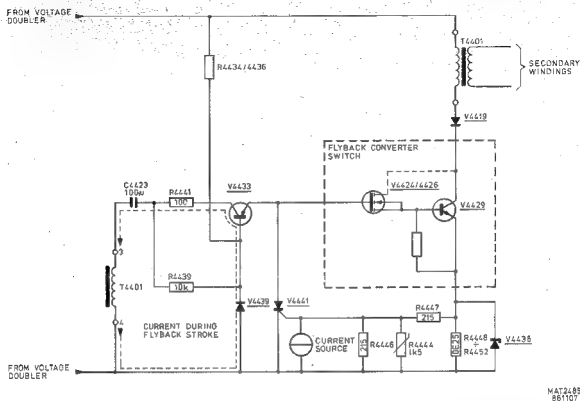

Figure 8.19.3 Simplified diagram of the flyback converter switch.
8.19.4 The flyback converter switch (see also figure 8.19.3)
The switch control is a rather complicated circuit, which will be explained by the simplified circuit diagram of figure 8.19.3. After power on, a current via R4434/4436 and the b-c diode of V4433 charges C4423 until the threshold voltage of the FET is reached, after which the converter switch turns on. The current through winding 1-2 of T4401 and R4448...R4452 increases linearly and charges T4401. This causes a linearly increasing voltage on winding 3-4, which turns the converter switch further on. This is the forward stroke.